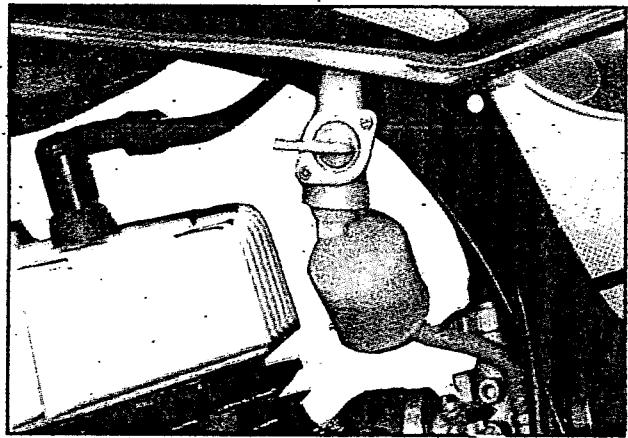

Fig 3.1
- Turn the fuel cock to OFF position and disconnect fuel hose (fig 3.1)